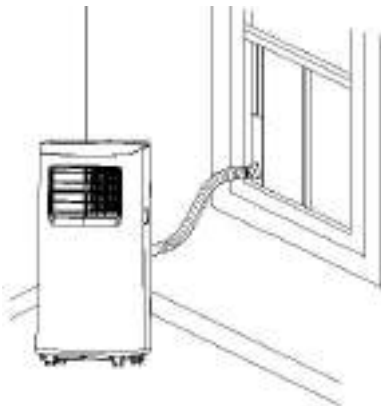

Fig.5
2) Elongate the exhaust pipe and snap the flat end of the exhaust pipe joints into the hole of the window sealing plate assembly (as shown in Fig.5 and Fig.6) .